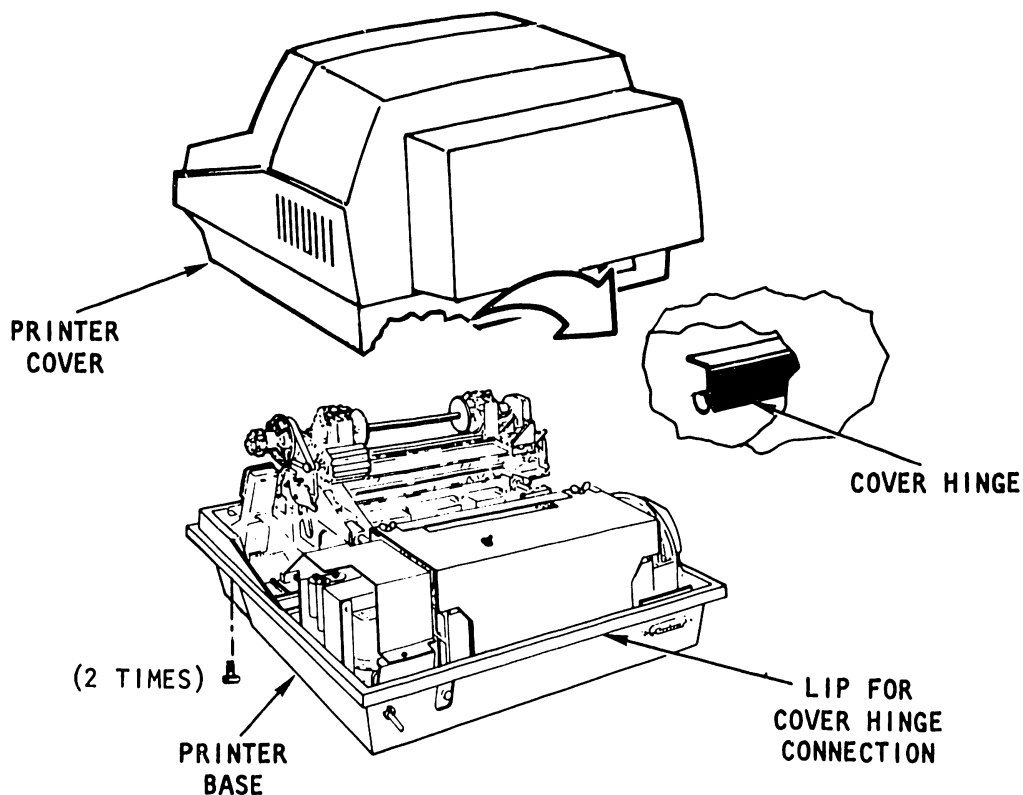

Figure 4-4. Printer Cover Removal/Installation
- f. Lift the front of the printer cover slightly and move it back slightly to unhook the cover hinge from the printer base. See figure 4-4 for the location of the cover hinge.
- b. Tilt the front of the cover upward and hook the rear bracket under the lip at the back of the printer base. See figure 4-4 for locations.